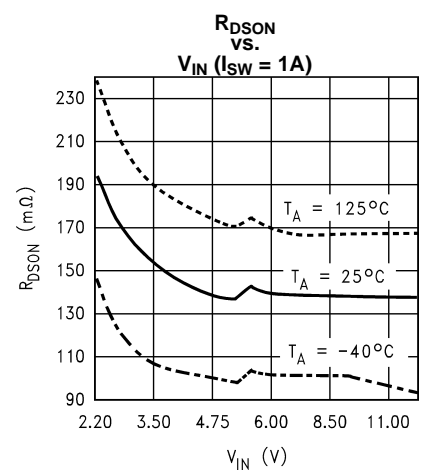

Figure 7.
- (1) All limits guaranteed at room temperature (standard typeface) and at temperature extremes (bold typeface). All room temperature limits are 100% production tested or guaranteed through statistical analysis. All limits at temperature extremes are guaranteed via correlation using standard Statistical Quality Control (SQC) methods. All limits are used to calculate Average Outgoing Quality Level (AOQL).
- (2) Typical numbers are at 25°C and represent the most likely norm.
- (3) Duty cycle affects current limit due to ramp generator. Current limit is at 0% duty cycle and will decrease with higher duty cycles. See Typical Performance Characteristics for a graph of Power Switch Current Limit vs. V_{IN} and Power Switch Current Limit vs. Temp.
- (4) See the graph titled " R_{DSON} vs. V_{IN} ", Figure 7, for a more accurate value of the power switch R_{DSON} .
- (5) Bias current flows into FB pin.